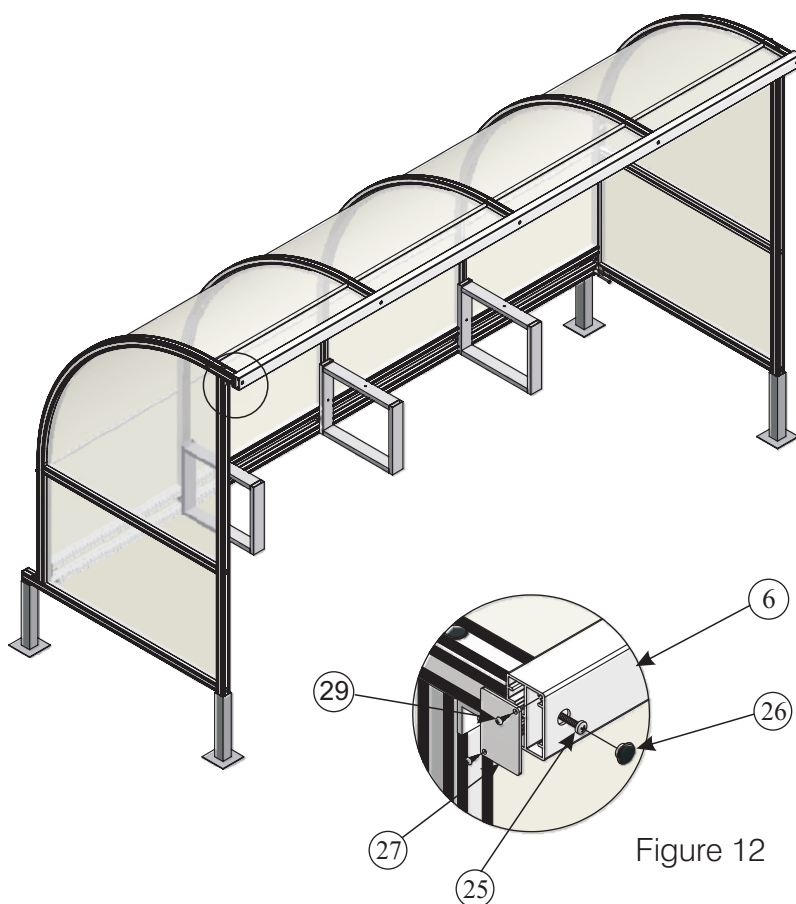

Figure 12
7.) Once all the plastic is in place the crossbar (6) needs to be fixed into position. Attach the crossbar using the self tapping screws (25), locate the holes in the crossbar and line the holes up with the screw port in the bent supports. It is best to fix in the end screws first so that the crossbar is supported at either side. You then need to tighten up the middle 3 screws gradually as the crossbar pulls onto the face of the bent supports. *You will need a 10mm deep drive socket/FAS005 (30) for this.* When doing so make sure the plastic sheets are lined up to fit into the recess of the crossbar. This is important as this will hinder the screws from pulling into the supports.
When the crossbar is fitted tightly you can finish it off by inserting the round caps (26) into the front of the crossbar and the end caps (27) in either end of the crossbar by using the 10g self tapping screws (29) (Figure 12).